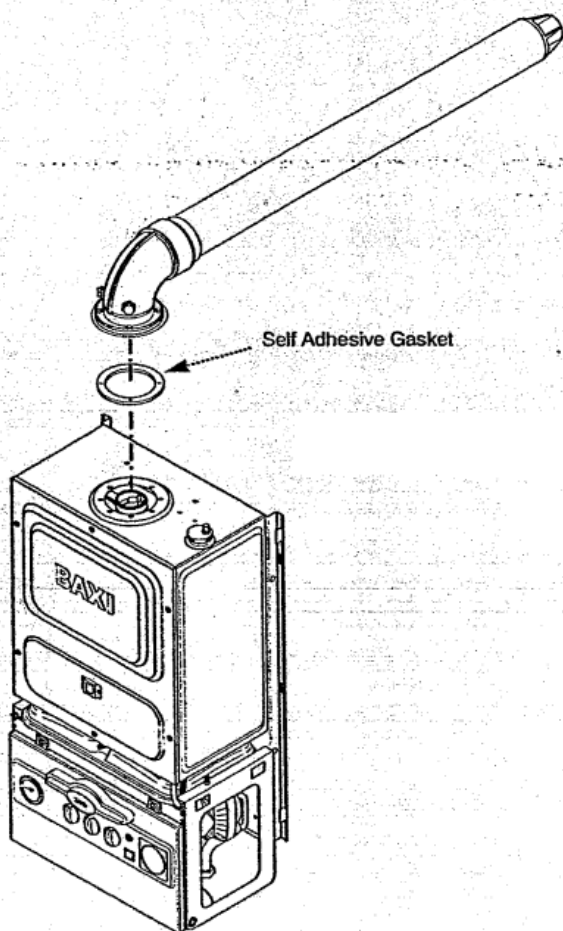

Fig. 28
15. Peel the backing paper off the adhesive on the flue gasket. Fix the gasket to the flue elbow (Fig. 28).
17. Engage the elbow on to the flue connection on top of the boiler. Secure with the four screws (Fig. 28).